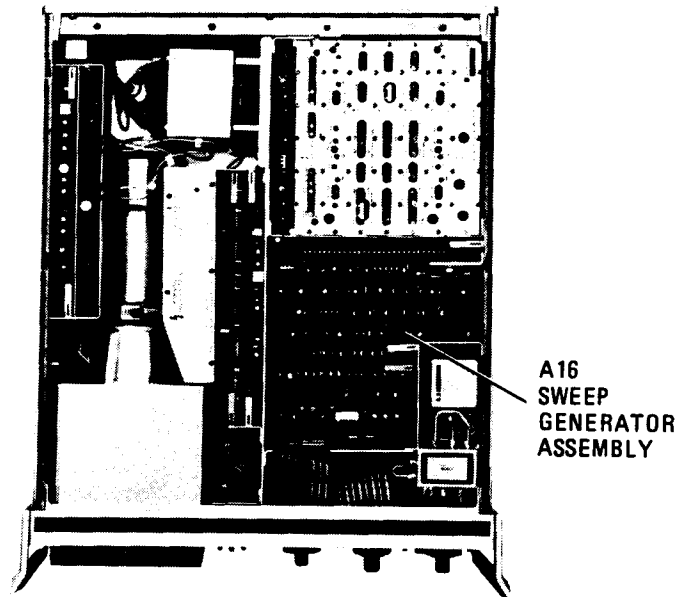

Figure 5-25. Sweep Generator Adjustment Locations
3. Connect digital voltmeter to A16TP3 +10 VTV and use A16TP4 for ground return. Adjust A16R9 +10 VTV for $+10.00 \pm 0.01V$ (See Figure 5-25).